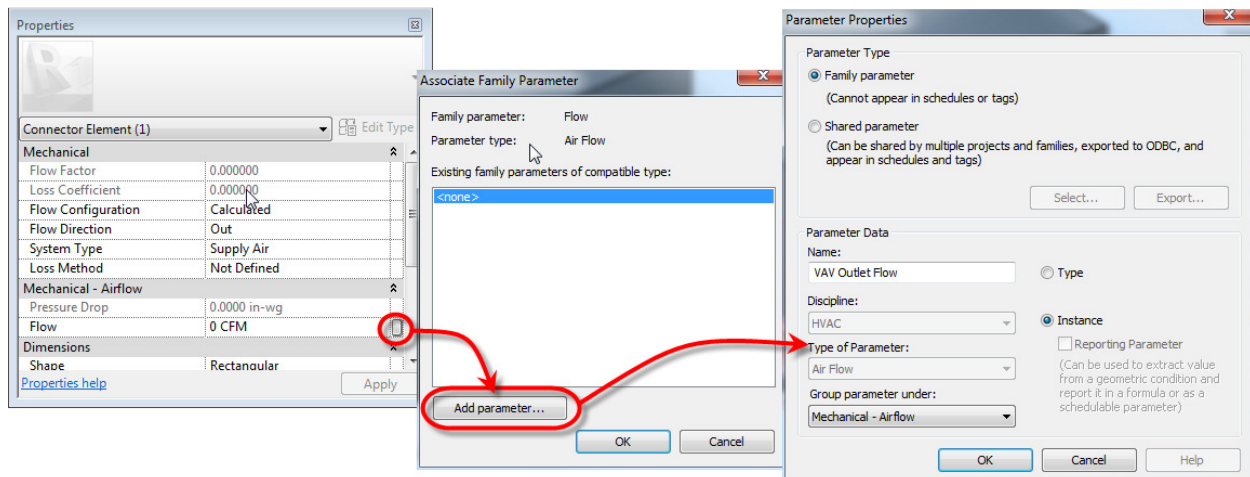

Figure 45. Setting up the *Flow* property of the Outlet Duct Connector.
6. Under *Mechanical – Airflow*, select the small button to the right of the *Flow* property as shown in Figure 45.